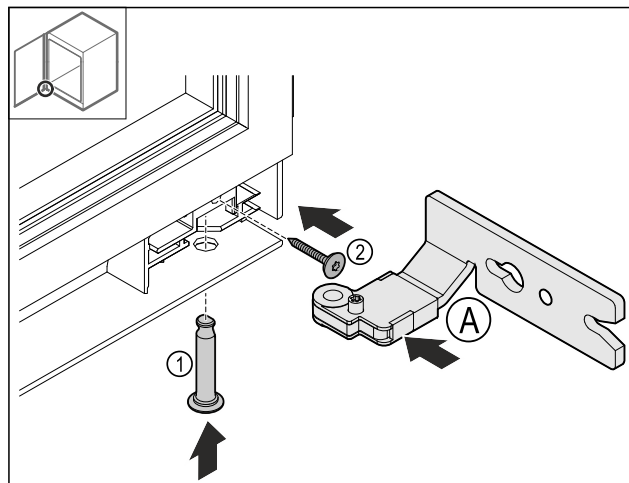

Fig. 27
- Insert the lower hinge Fig. 27 (A).
- Insert and hold the bolt in place Fig. 27 (1).
- Screw the screw Fig. 27 (2) tight.